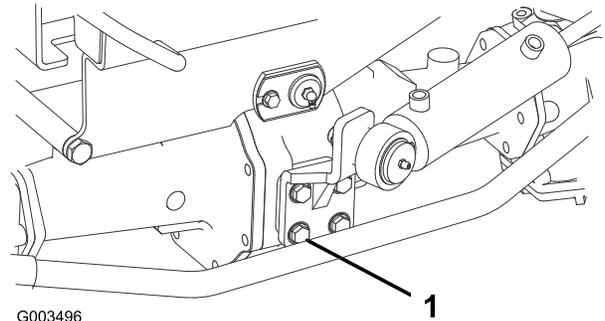

Figure 67
2. Torque the 4 bolts for the steering-cylinder mount (Figure 67) to 65 to 81 N·m (48 to 60 ft·lb).